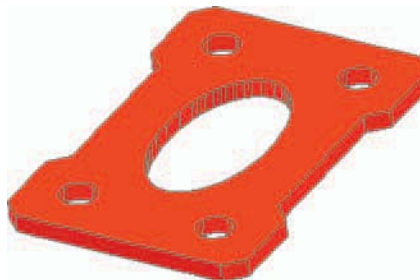

Fig. 17.21 First example – 2D outlines in 3D space
### First example – 2D outlines in 3D space (Fig. 17.21)
7. Place in the **Home/View/Realistic** visual style. Extrude the region to a height of **10** (Fig. 17.21).